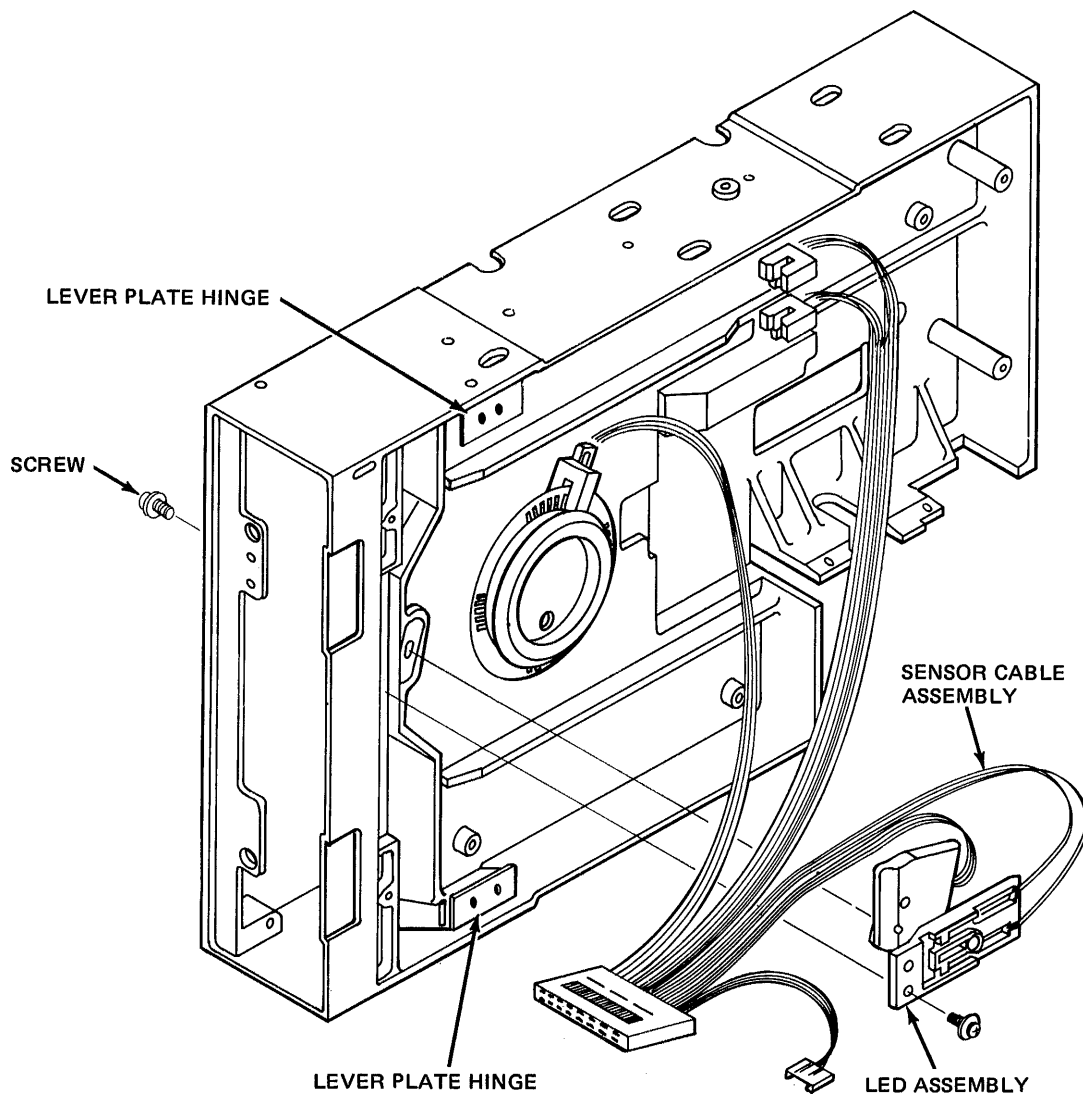

Figure 4-11 Removing the Sensor Cable Assembly
- a. Remove the lever plate by removing the four screws that fasten it to the two lever hinges (see Figure 4-11).
- b. Install the two screws that fasten the LED assembly to the base frame (see Figure 4-11).